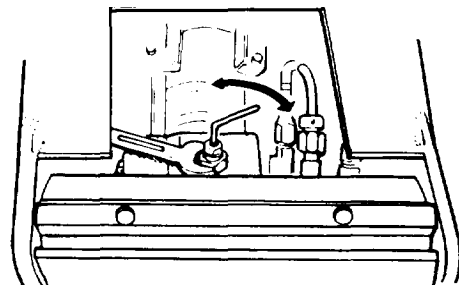

Figure 4-54. *Holding Valve (Adjusting Screw)*
3. Loosen jam nut on counterbalance valve extending up from valve block and turn the adjusting screw in until it bottoms (Figure 4-54). Keep track of number of turns required to bottom out screw.